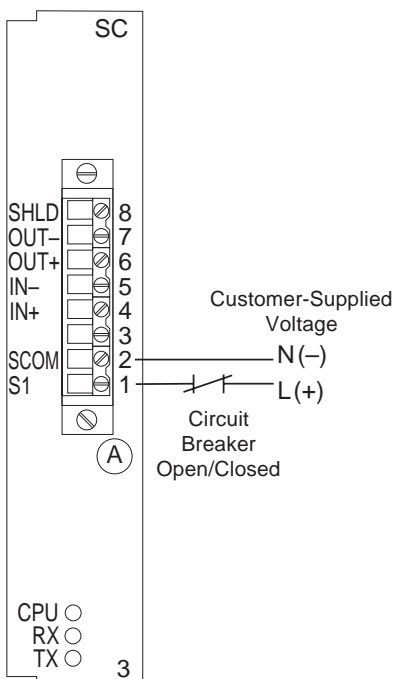

Figure 35: Typical status input connections
The digital relay with optional communications card offers one status input. The input can be used to sense the state of external contacts, such as those of a circuit breaker. Figure 35 shows a typical input connection. Follow these steps to wire the status input connections:
3. Connect the wires as shown in figure 35. Tighten the terminal screws; see the **Terminal Block Wiring Specifications** table, page 103, for the correct torque range.